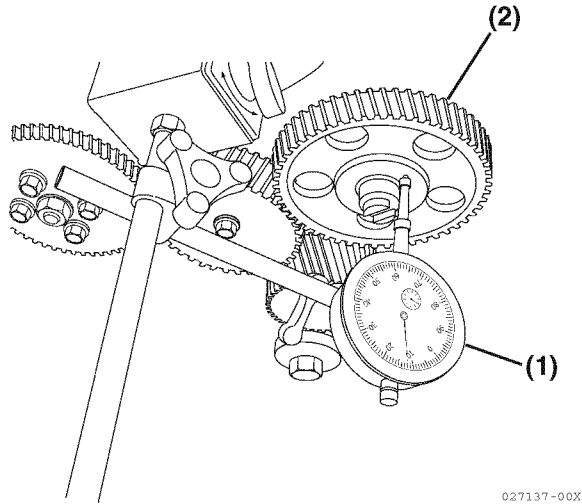

Figure 6-45
- Method A:** Install a dial indicator (**Figure 6-45, (1)**) on the cylinder block. Move the camshaft and gear (**Figure 6-45, (2)**) in and out to measure the end play. Record the measurement. See *Camshaft* on page 6-7 for the service limit.